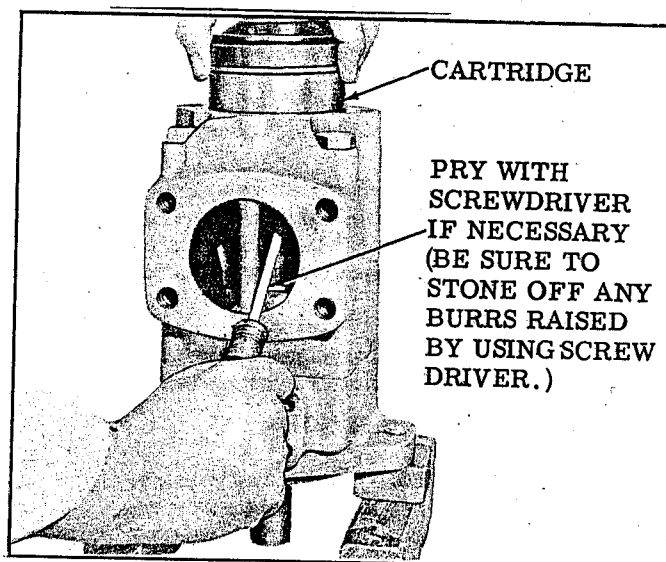

Figure 12. Removal of Cover End Cartridge
2. Pull or pry cover cartridge (4) from the inlet housing. See Figure 12. Set aside for disassembly during step B.8.